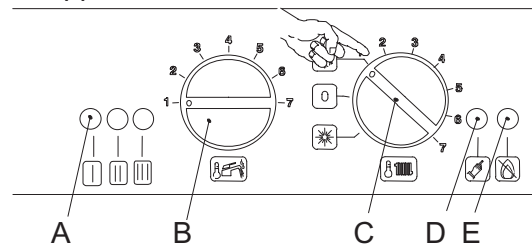

Figure 5.2
- 2 Turn on the electricity supply to the boiler, switching on the circuit breaker. The appliance operation light A (figure 5.2) will flash every 4 seconds (stand-by condition).
- 3 If the boiler is to be used for central heating position the function selector C as in figure 5.2. The appliance operation light A will flash every 2 seconds (operating boiler).
- The appliance operation light A (figure 5.2) will flash every 4 seconds (stand-by mode).